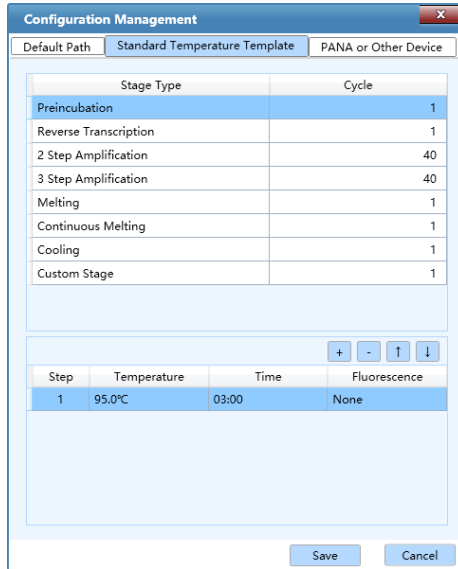

Figure E-3.8b Configuration Management Interface - Standard Temperature Template
- ▶ **Standard Temperature Template** tab: 7 predefined standard temperature templates, stage types and parameters are displayed in this tab, as shown in figure E-3.8b.